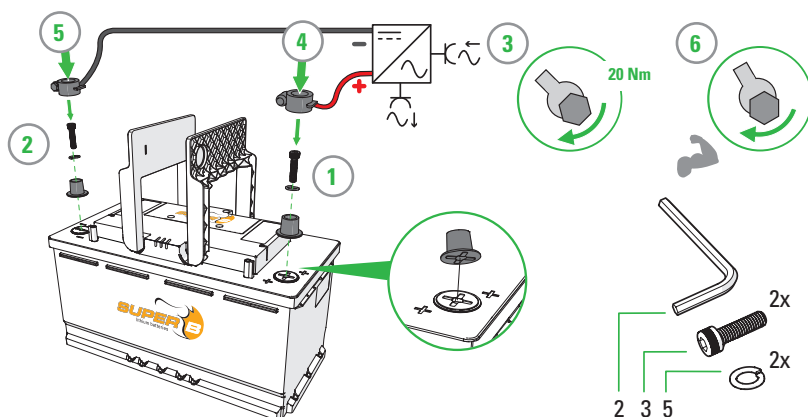

Figure 4. Connecting power cables with automotive type terminals
1. Connect the load or charger to the X2 (+) terminal of the Li-ion battery. (Figure 4)
2. Connect the load or charger to the X1 (-) terminal of the Li-ion battery. (Figure 4)